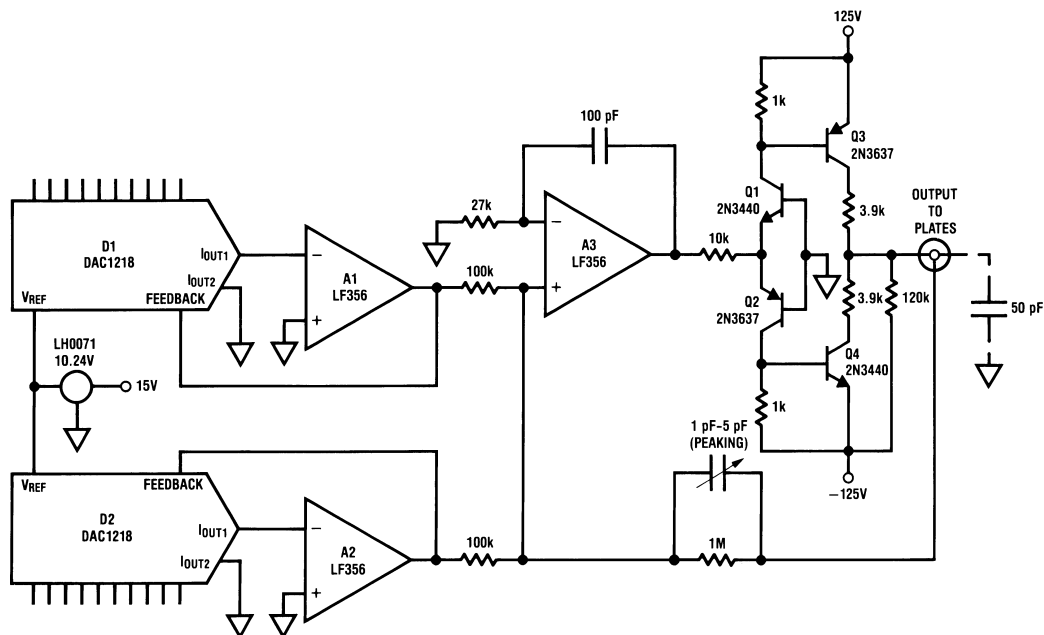

FIGURE 4.
Another common high voltage requirement involves deflection plate modulation in CRT and electron-optics applications. Figure 4 shows a pair of DAC1218s used to control both the static (DC) and dynamic (AC) drive to deflection plates in a piece of electron-optic equipment. In contrast to the previous high voltage circuit, this one has very little output current capability but greater bandwidth. The deflection plate load can be modeled as a 50 pF capacitor. In this application, the output of both DAC-amplifier pairs is summed at A3. In practice, one DAC will supply a DC level to the plate (bias) while the other one provides the plate's AC signal, typically a ramp. The high voltage plate drive is furnished by the Q1, Q2, Q3, Q4 configuration which is a complementary